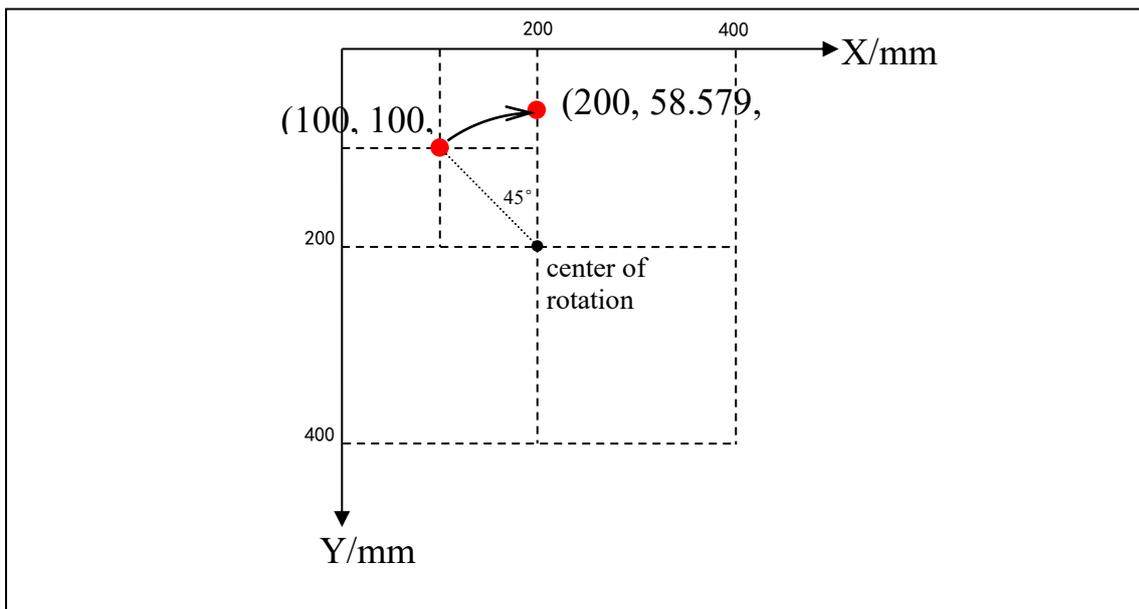

Figure 0.19 "Schematic diagram of "Plane Rotation"
- (6) **Plane rotation:** All screw holes in the range of "start address" and "end address" will be rotated with the coordinate point halfway between the "travel" of X and Y axes as the rotation center, and the corresponding X and Y coordinates will be changed in batch according to the "rotation angle" rotation. The corresponding X and Y coordinates can be changed in a batch by rotating them according to the "rotation angle". [The "**plane rotation**" case: If the machine X-axis travel for 400mm, Y-axis travel for 400mm, a screw hole position of the coordinates of the point (100mm, 100mm, 40mm), after 45 ° clockwise rotation of the coordinates of (200, 58.579mm, 40mm), such as Figure 0.19 shown]